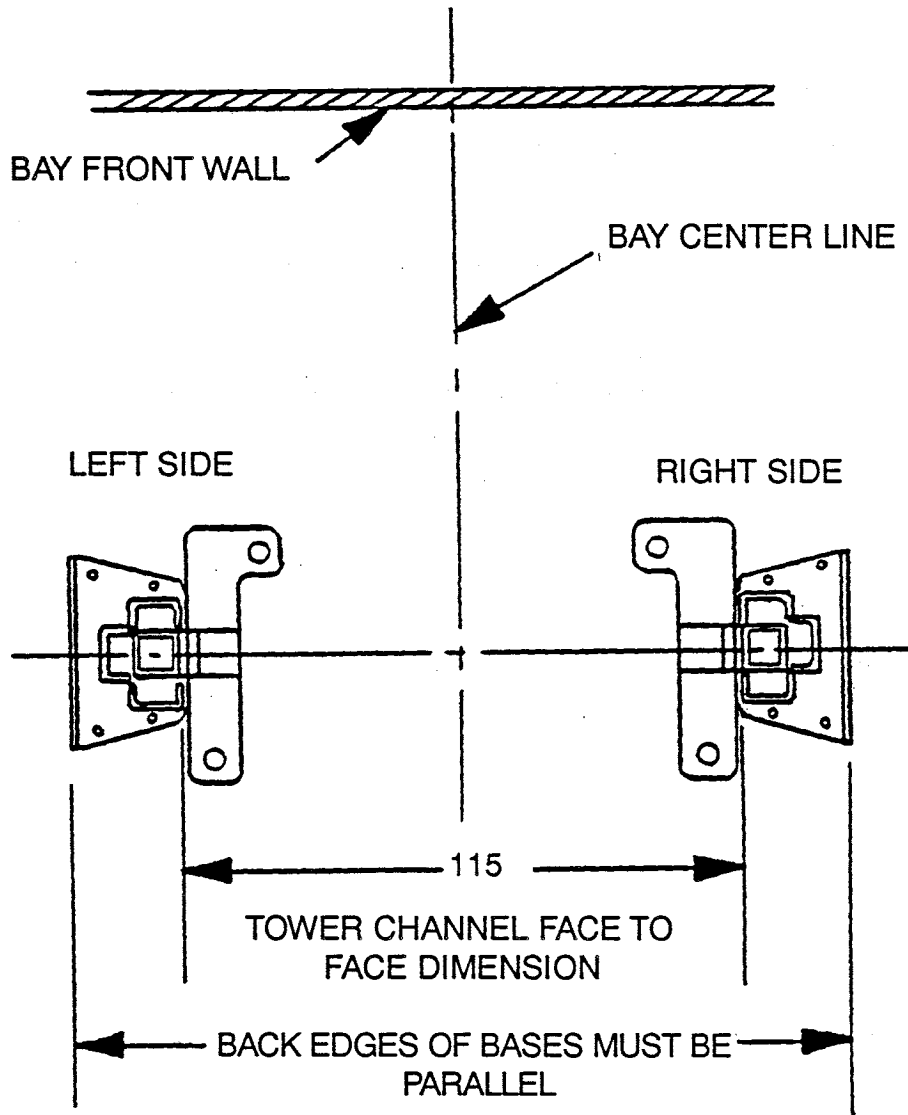

FIG. 1
6. Prepare the bay by selecting the location of the hoist relative to the walls. Draw a chalk line on the floor to represent the centre line of the bay and a second chalk line crossing at 90 degrees for locating the hoist towers. See Figure 1.
1. Erect the left side tower (tower with the motor bracket) and the right side tower to the relative positions *as shown in Figure 1*. **Check the 115" dimension.**